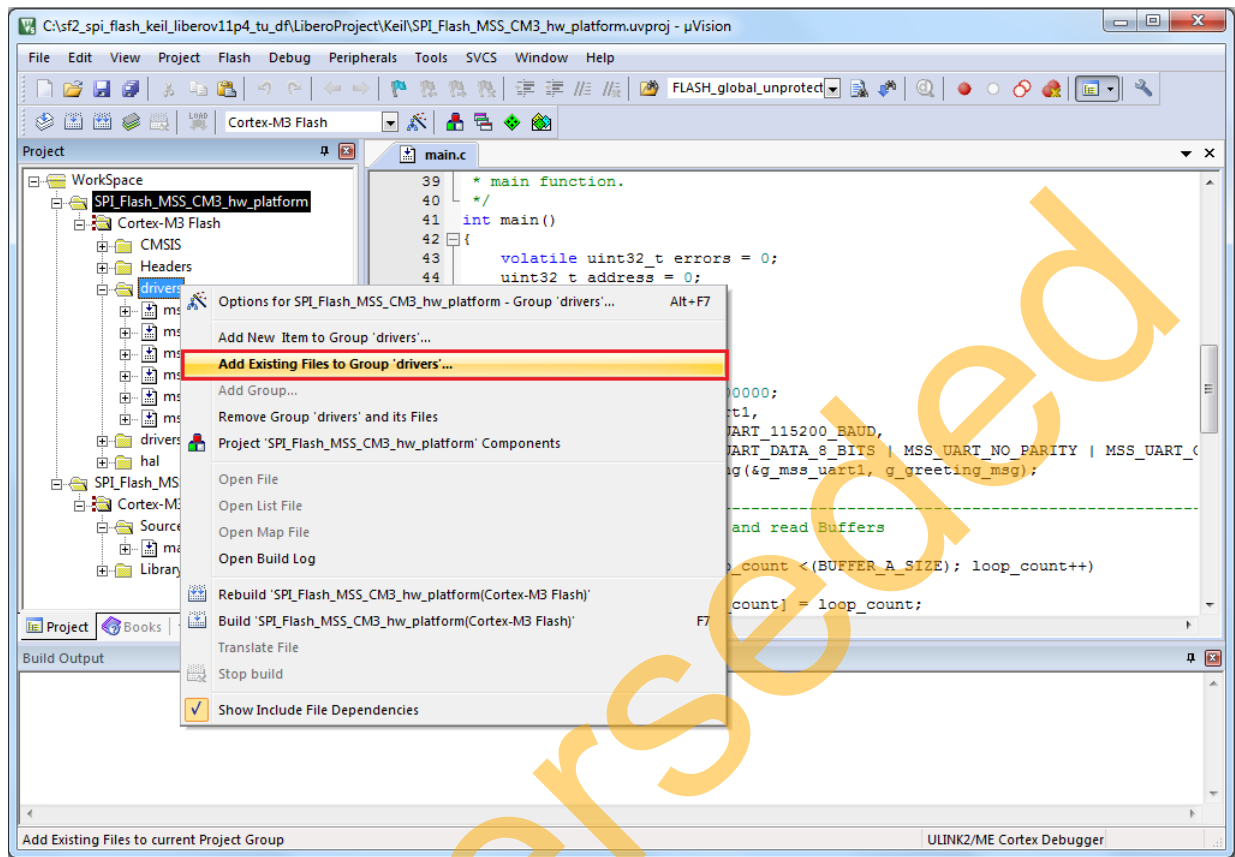

Figure 22 • Project Explorer Window
6. Right-click **drivers** and add the driver file (winbondflash.c) to SPI_Flash_MSS_CM3_hw_platform project in the Keil uVision workspace as shown in Figure 22.